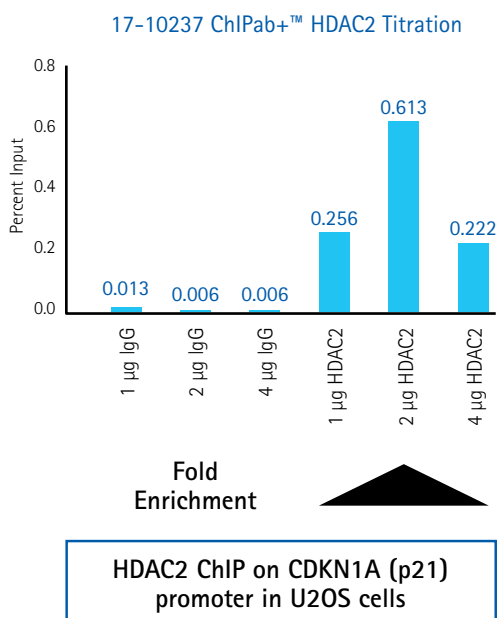

Figure 8. Titration of Input Antibody to Maximize ChIP Enrichment.
- Whether you select a monoclonal or polyclonal antibody for your ChIP experiment, you must optimize the dilution of your antibody for your specific analysis. If you use excess antibody, you may succeed in immunoprecipitating your target protein, but you may also observe higher nonspecific binding or reduced specific signal. In contrast if you use too little antibody you will typically observe low recovery of your target see Figure 8.